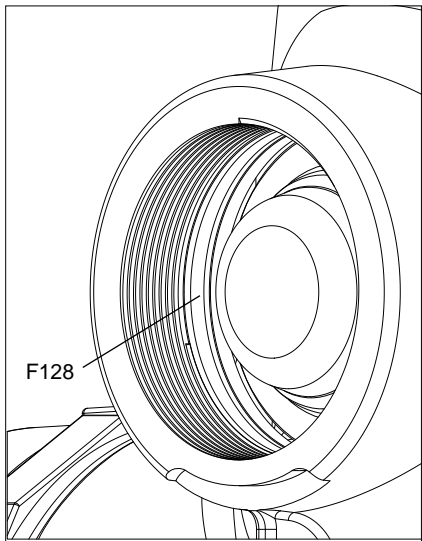

Fig. 3D
4. Remove Threaded Hose Nozzle O-ring (F128), See Fig. 3D, or Threaded Pumper Nozzle O-ring (F131), See Fig. "3E", and replace with a new one.
4. Remove Threaded Hose Nozzle O-ring (F128), See Fig. 3D, or Threaded Pumper Nozzle O-ring (F131), See Fig. "3E", on page 9.